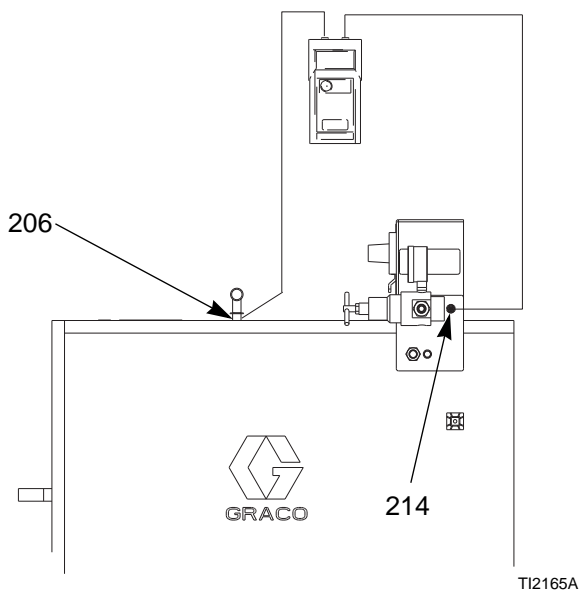

Fig. 23. Test Ground Strip Resistance
See FIG. 23.. Using an ohmmeter, measure the resistance between the latch housing (206) and the ground lug (214). The ground strip is grounded through the cart back to the ground lug. Resistance must be less than 100 ohms. If greater than 100 ohms, replace the ground strip (240).